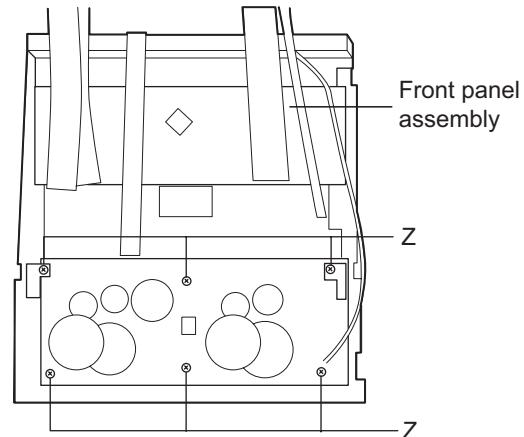

Fig.19
(See Fig.19)
(See Fig. 19 and 26)
- (1) Remove the six screws **Z** that retain the cassette deck mechanism. (Fig.19)
- (2) Remove the cassette deck mechanism.
- (3) Turn the cassette deck mechanism upside down.
- (4) Remove the solder from around the leaf switches.
- (5) Pull out the leaf switches from the front side of the cassette deck mechanism.
(See Fig.19, 24 and 25)
- (1) Remove six screws **Z** retaining the cassette deck mechanism. (Fig.19)
- (3) Remove two screws **t** retaining the main motor from the front side of the cassette deck.
(See Fig. 19 and 27)
(1) Remove six screws **Z** that retain the cassette deck mechanism. (Fig.19)
(2) Remove the cassette deck mechanism and place it so that the front side faces up.
(3) Remove the solder from the bottom side of the head terminal and disconnect the wire.
(4) Remove screw **U** that retains the head.
(5) Remove screw **V** that retains the head.
(6) Hold the head and slide it in the direction of the arrow to remove it.